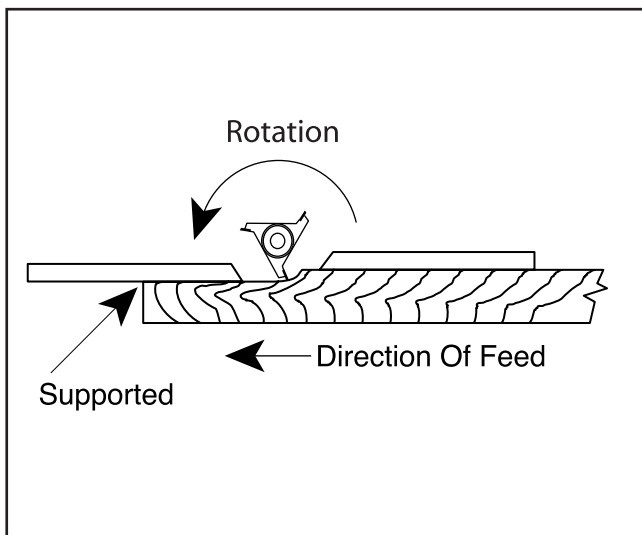

Figure 33. Fence adjusted to support workpiece.
6. Once the shaper is turned off and the cutter has come to a complete stop, adjust the outfeed fence to support the new profiled edge (see **Figure 33**).